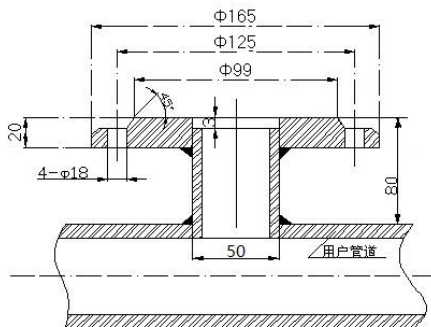

Figure 49 Welding of the mounting base
Before installation, a small hole with a diameter of 50mm should be opened on the pipe under test, the size of which is consistent with the outer diameter of the connecting pipe of the installation base. The welding between the mounting base and the pipe under test is shown in Figure 49.
- (3) Determine the insertion depth of the insertion type electromagnetic (the positions of the two electrodes on the insertion type electromagnetic flow sensor in the pipeline).
- (4) Install the DN50 ball valve on the mounting base as shown in Figure 49. Note that the long cavity of the ball valve is up. Check whether the ball valve can be fully opened and fully closed. Tighten the compression nut and set screw, and pay attention to the direction mark of the sensor and the direction of the fluid flow.
- (5) Determination of the insertion depth of the insertion type electromagnetic flow sensor: For $D \leq 400\text{mm}$, the insertion depth is: 1/2 times the pipe diameter. For $D > 400\text{mm}$, the insertion depth is: 1/4 times the pipe diameter. (The meter coefficients of the two places are different)